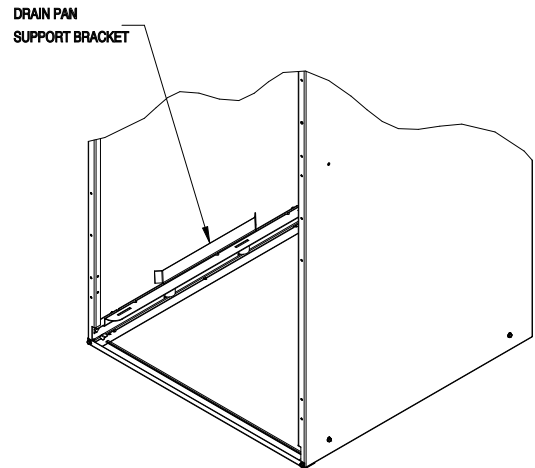

Fig. 8 – Drain Pan Support Bracket
5. Remove horizontal drain pan support bracket from coil support rail on left side of unit and reinstall on coil support rail on right side of unit (Fig. 8).